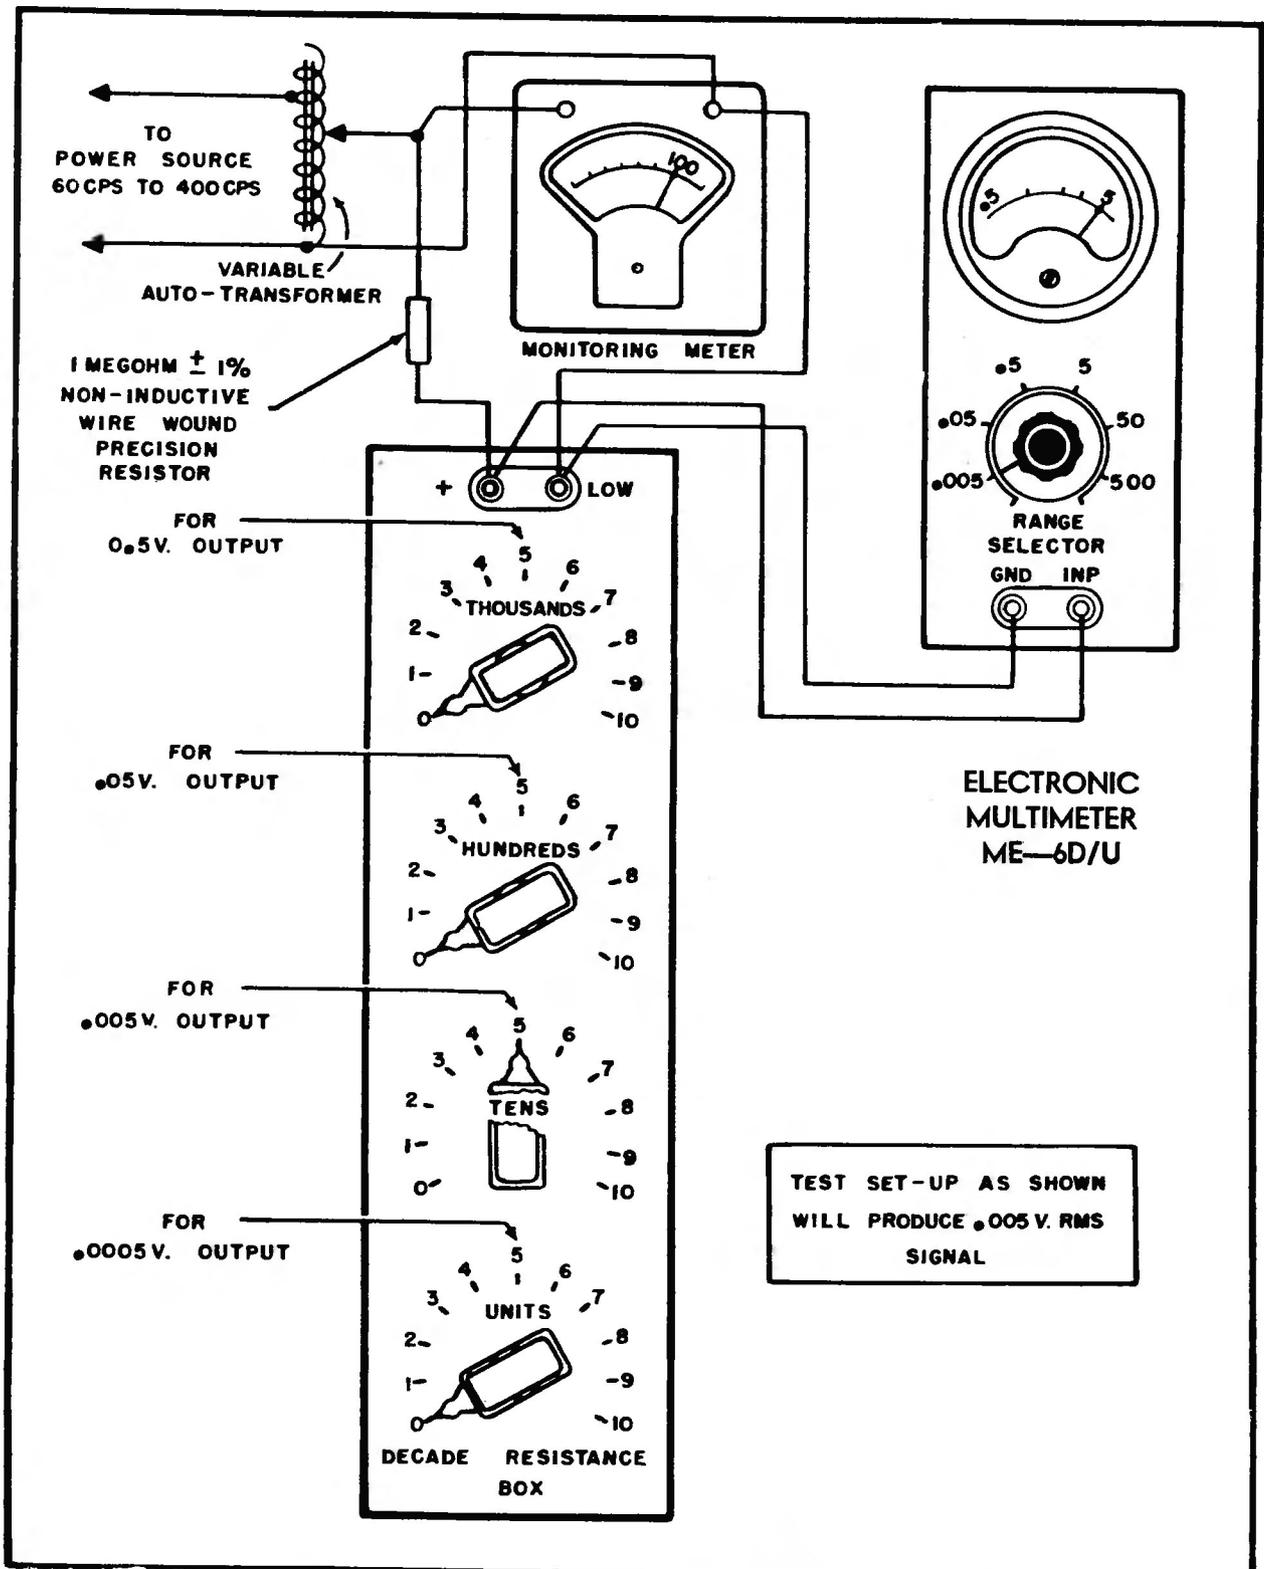

Figure 6-1. Test Set-up for Checking .005 V., .05 V., and 0.5 V. Positions of Range Selector
(1) An a-c voltmeter, capable of indicating 500 volts, 100 volts, and 5 volts, r-m-s, with an accuracy of $\pm 1\frac{1}{2}\%$ or better at the above reference voltages. (Individual a-c voltmeters, providing the same voltage indications with the same degree of accuracy at the 500, 100 and 5-volt marks, may be substituted.)
(2) A variable auto-transformer, capable of receiving 117-volts a-c from the power source at its input terminals.
(3) A step-up transformer with a 117-volt primary winding, and a nominal 500-volt secondary winding.
(4) A step-down transformer with a 117-volt primary winding, and a nominal 5-volt secondary winding.
(5) A non-inductive decade resistance box with a maximum range of 11,110 ohms, having an accuracy of $\frac{1}{4}\%$ or better. The decade resistance box should contain four decades, consisting of THOUSANDS, HUNDREDS, TENS, and UNITS. With the equipment set up as shown in Figure 6-1 voltages from 0.1 to 1 volt may be obtained on the THOUSANDS decade, depending on its setting, while all other decades are at the zero settings.
(6) A 1-megohm $\pm 1\%$ precision wire-wound non-inductive resistor.
d. PROCEDURE FOR CHECKING WITH POWER SOURCE AND AUXILIARY EQUIPMENT—See Figure 6-1—To check the performance of Electronic Multimeter ME-6D/U with the 117-volt power source and the auxiliary equip-
(6) Rotate the RANGE SELECTOR counterclockwise to its 5 V. position, and apply the same 5-volt $\pm\frac{1}{2}\%$ signal that was used in step (5), above, with the same monitoring set-up. The Electronic Multimeter should indicate a precise full-scale 5-volt deflection.
(7) In order to check the Multimeter at its 0.5 V., .05 V., .005 V., and .0005 V. ranges, the decade resistance circuit, as shown in the accompanying illustration, figure 6-1, must be used. Disconnect the step-down transformer from the test set-up. Connect the output of the auto-transformer to the input of the decade resistance box through a 1-megohm precision wire-wound non-inductive resistor. Monitor the output of the auto-transformer with the aid of an a-c voltmeter capable of indicating 100 volts with an accuracy of $\pm\frac{1}{2}\%$. Vary the auto-transformer control until the monitoring meter shows an output of 100 volts $\pm\frac{1}{2}\%$. Then proceed as follows: